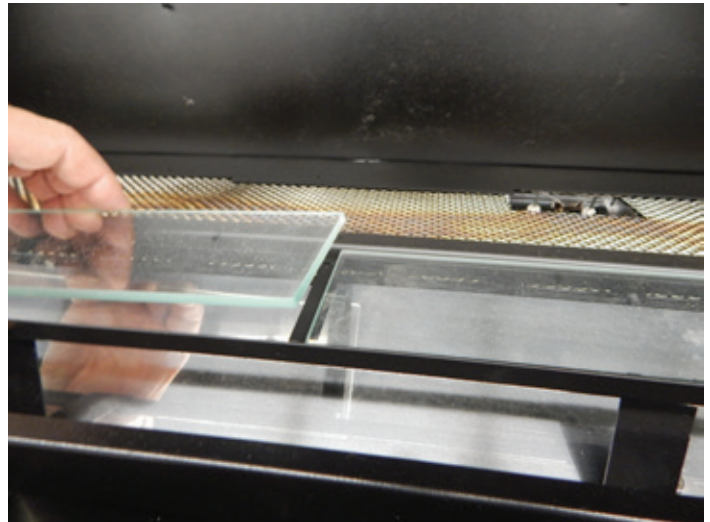

Figure 11
15. Re-install the Rear Liner panel. Place the bottom tabs into the slots provided in the rear support bracket, then install the (2) screws removed in step 6.
16. Re-install the Side Liner panels. Align the rear tabs with the slots provided in the rear liner panel and install the (2) screws removed in step 5.
17. Install the two accent glass panels onto the framework over the accent lights. See figure 11.